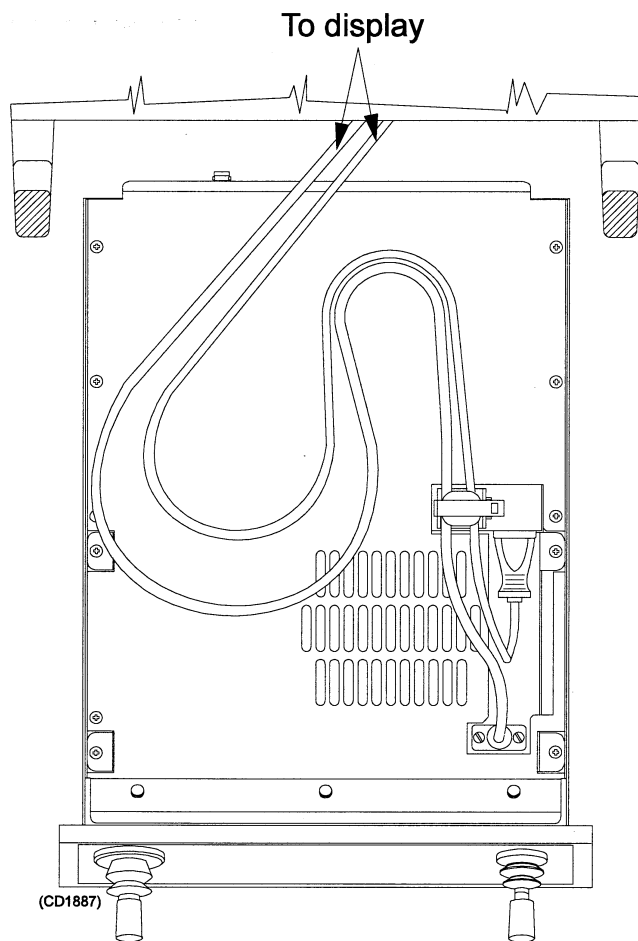

Figure 3 Mounting the electronic drawer unit
- Refer to figure 3 to reconnect the two display cables.
- Arrange the two display cables as shown in figure 3, and guide the drawer unit gently into the cabinet. Ensure the two guiding pins at the rear of the cabinet match the holes at the rear of the drawer unit. Fasten the drawer unit with the four front fastening screws.